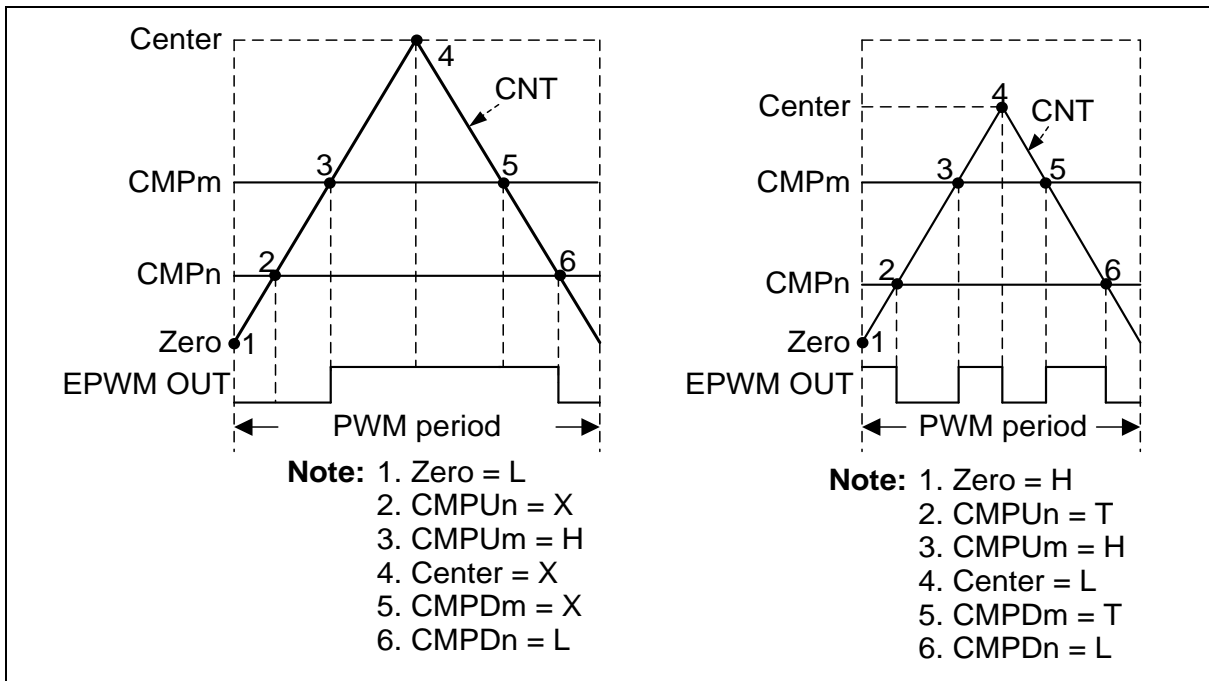

Figure 6.12-18 EPWM Pulse Generation
Each event point can decide EPWM waveform to do nothing (X), set Low (L), set High (H) or toggle (T) by setting the EPWM_WGCTL0 and EPWM_WGCTL1 registers. Using these points can easily generate asymmetric EPWM pulse or variant waveform as shown in Figure 6.12-18. In the figure, EPWM is in complementary mode, there are two comparators n and m to generate EPWM pulse. n denotes even channel number 0, 2, or 4, and m denotes odd channel number 1, 3, or 5. n channel and m channel are complementary paired. Complementary mode uses two channels (CH0 and CH1, CH2 and CH3, or CH4 and CH5) as a pair of EPWM outputs to generate complement paired waveforms. CMPU denotes CNT(EPWM_CNTn[15:0]) is equal to CMP(EPWM_CMPDATn[15:0]) when counting up. CMPD denotes CNT bits is equal to CMP bits when counting down.